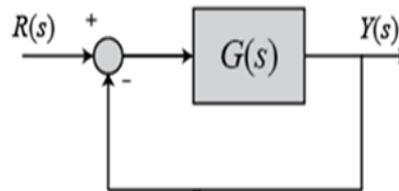

Figure 2
- 1.2. Consider the closed-loop system in Figure 2 where $G(s)=1/(s+0.1)$
- 3.2. Consider the closed loop system in Figure 2. Propose a method to get a less oscillatory step response (a more stable system).